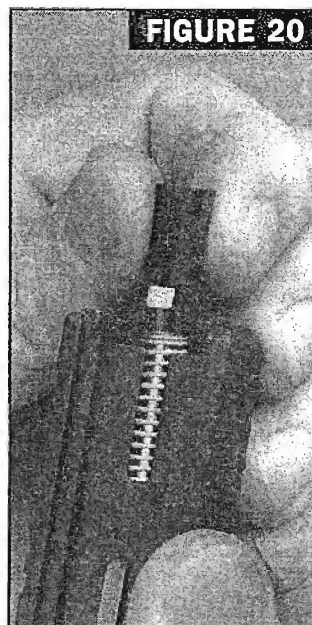

FIGURE 20
- Remove the firing pin assembly (Fig. 20).